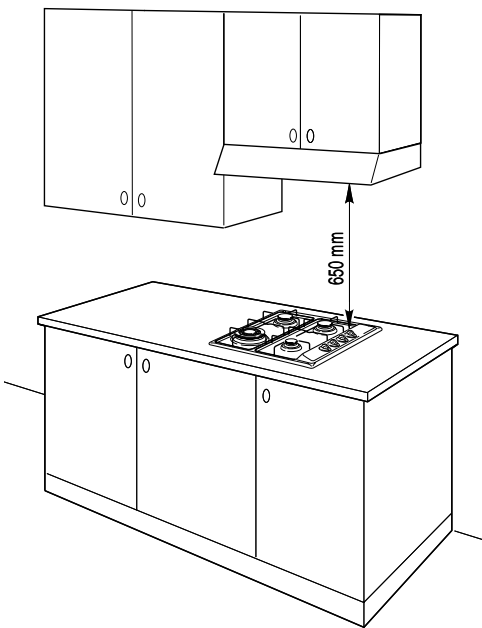

Fig. 4.2
- ✓ there must be a distance of at least 650 mm between the hob and any wall cupboard or extractor hood positioned immediately above (see fig. 4.2)